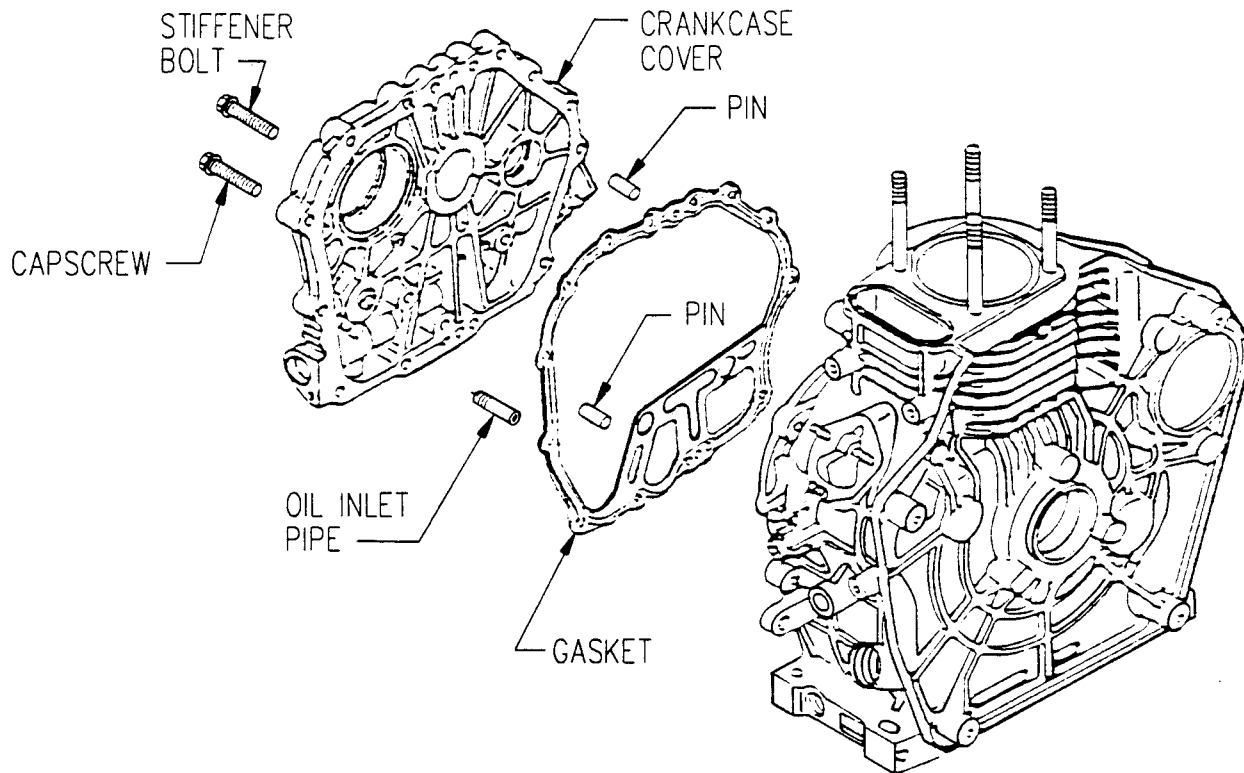

Figure 5-15. Crankcase Cover
- (1) If crankcase cover (Figure 5-15) was replaced, install the following: